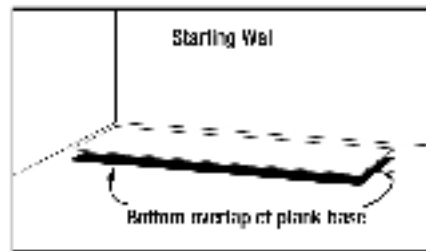

Fig. 2 Left corner of starting wall.
- Most installations will start along the longest straight wall in the room. The planks will be installed starting in the corner of the room on the left side of the starting wall (as you are facing it). The bottom overlap film should be exposed on the side and end of the plank facing away from the left corner of the starting wall (Fig. 2). Remove the paper release liner exposing the adhesive on the bottom overlay film.